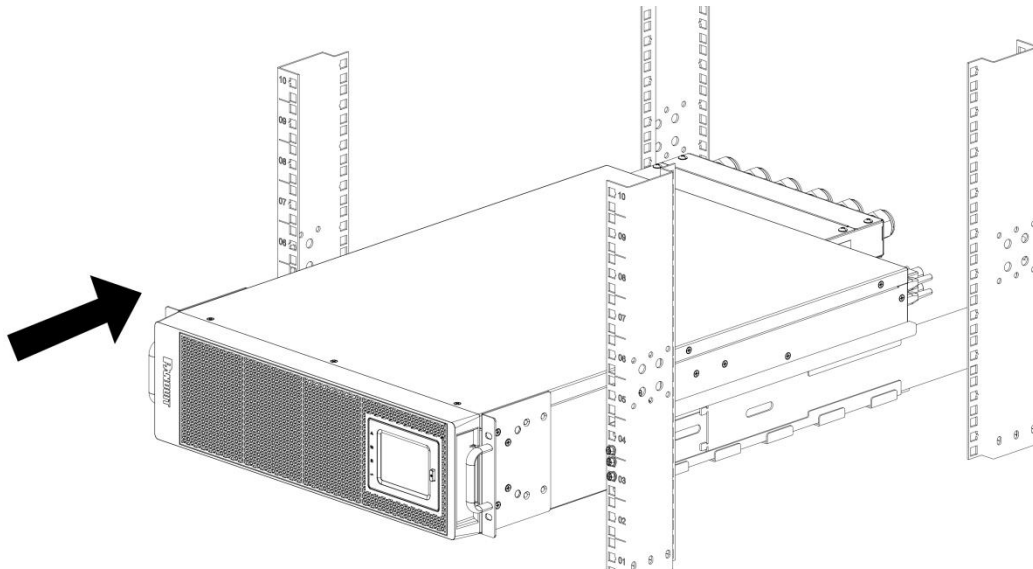

Figure 23: Slide UPS into the Rack
10. After installing the mounting brackets onto the UPS, slide the UPS into the rack on the rail kit (see Figure 23).